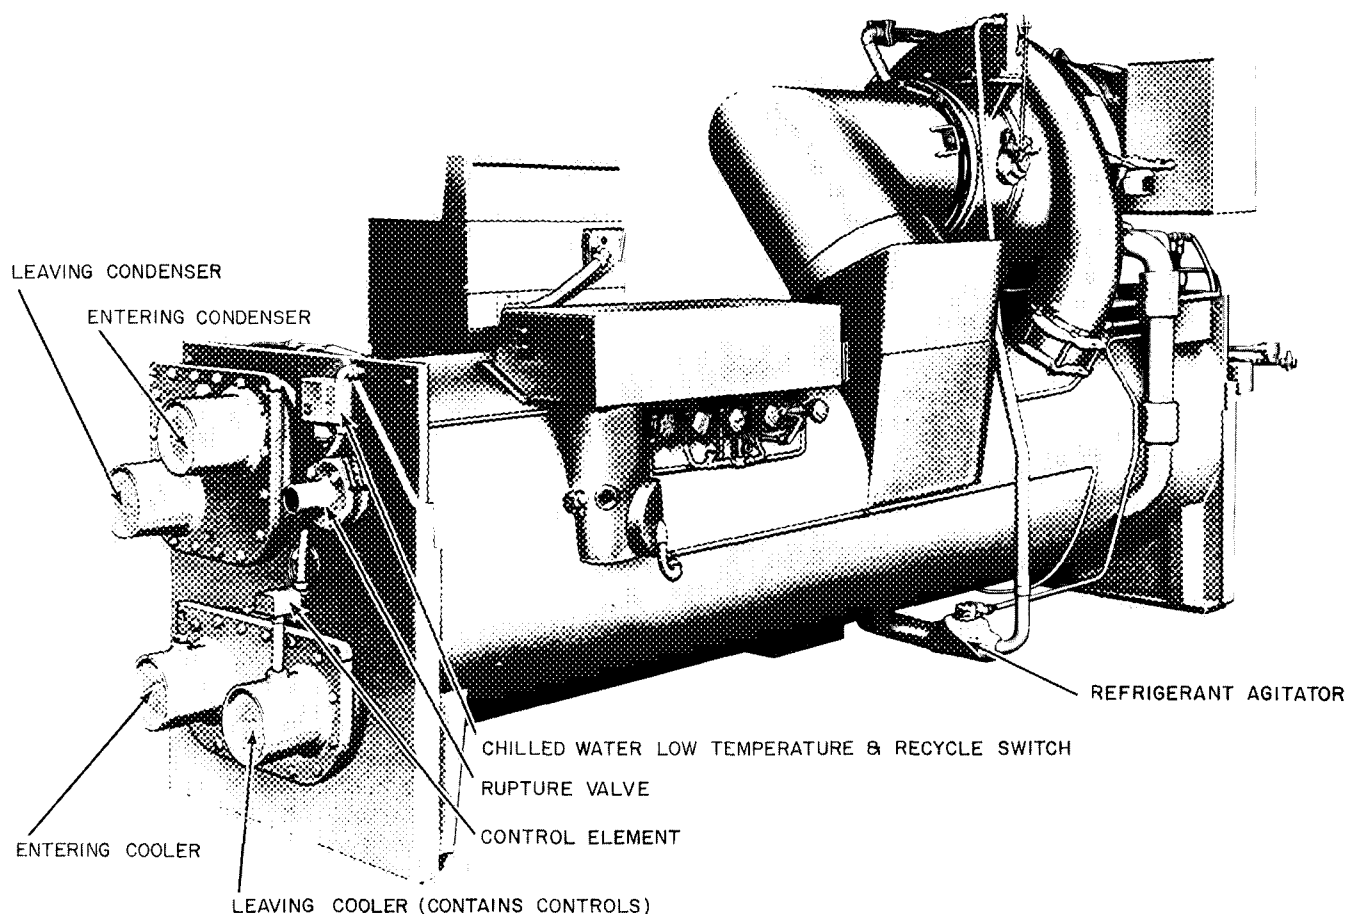

Fig. 3-2 - Typical Unishell Assembly
**Refrigerant Agitator** - To maintain high performance when the cooler is at partial load, a refrigerant agitator line (Fig. 3-2) splits into two lines on larger machine sizes and is installed from the condenser to the bottom of the cooler at a point below the distribution baffle. Each agitator line is opened and closed by a solenoid valve that is